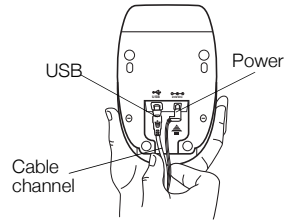

Figure 4
- 2 Plug the power adapter into the power connector on the bottom of the printer. See Figure 4.